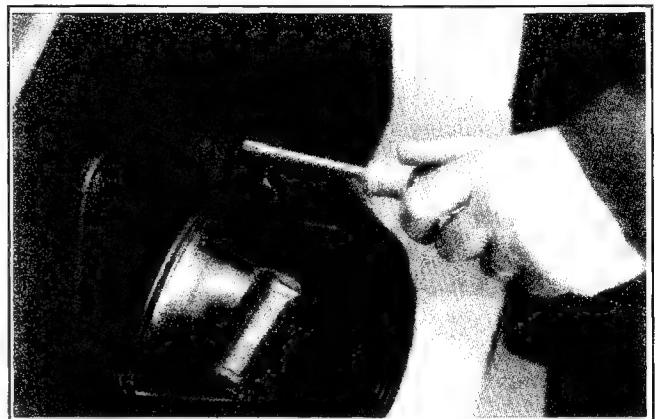

Figure 7-2. Removing Retractable Starter.
1. Remove the five hex. flange screws securing the starter to blower housing. See Figure 7-2.